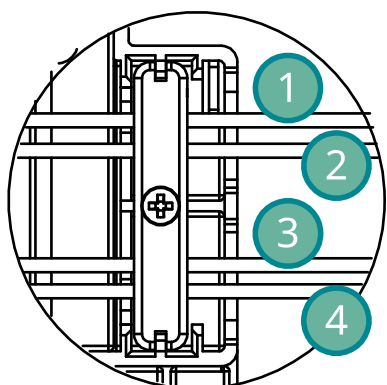

Figure 3-1: Cables arrangement
2. Carefully position the Safety earth cable within the cable clamp area as shown in Figure 3-1.
3. Pass the remaining cables through the cable clamp guides as shown in Figure 3-1.